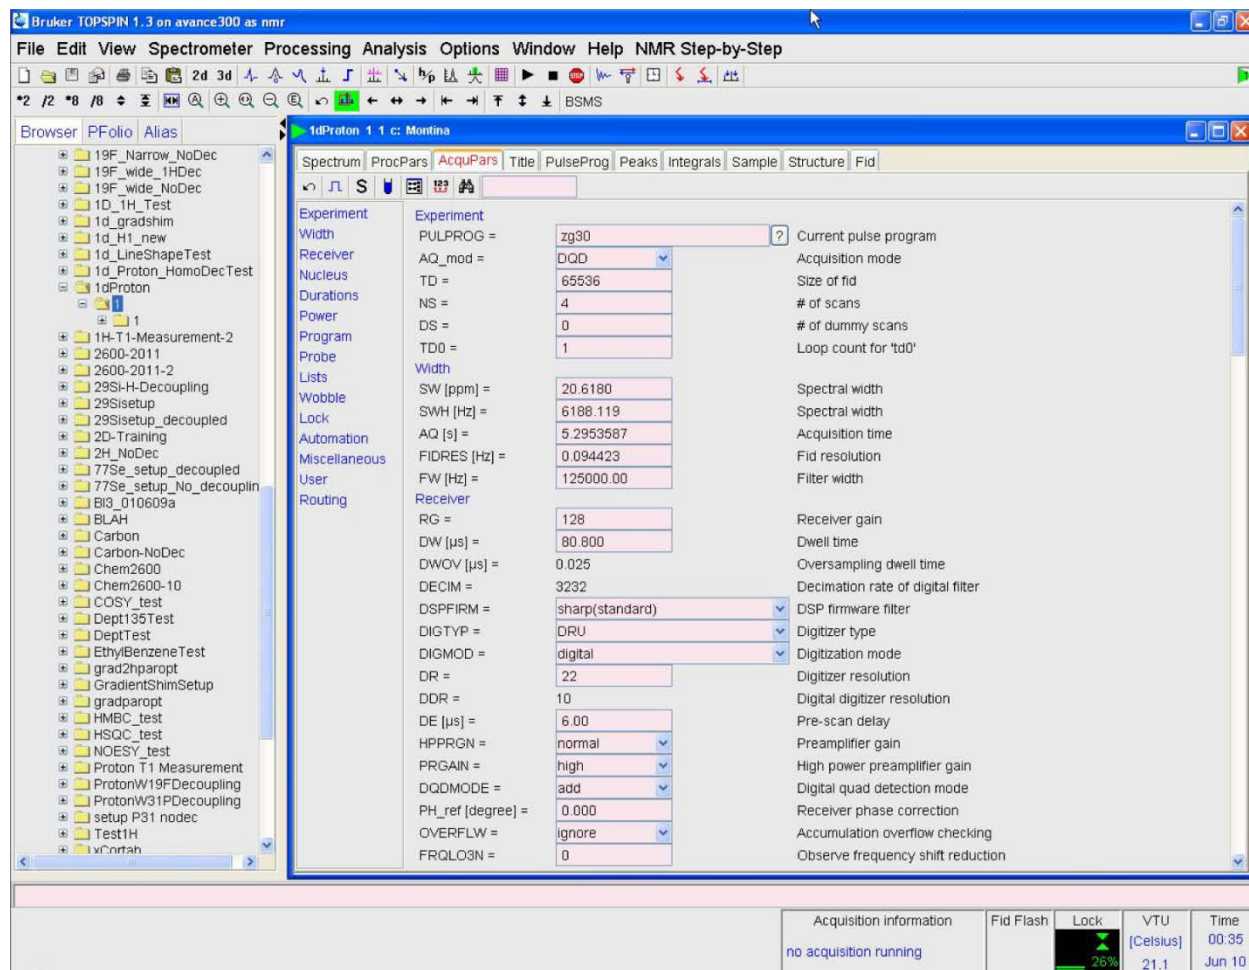

Figure 13 The Full list of acquisition parameters.
(13) Now that the probe and magnet have been prepared you can adjust the acquisition parameters. NOTE: If you are going to use the standard acquisition parameter (these are loaded when you choose your 1D experiment) you can skip this step and continue with step 14. The full set of acquisition parameters are shown in Figure 13 below: